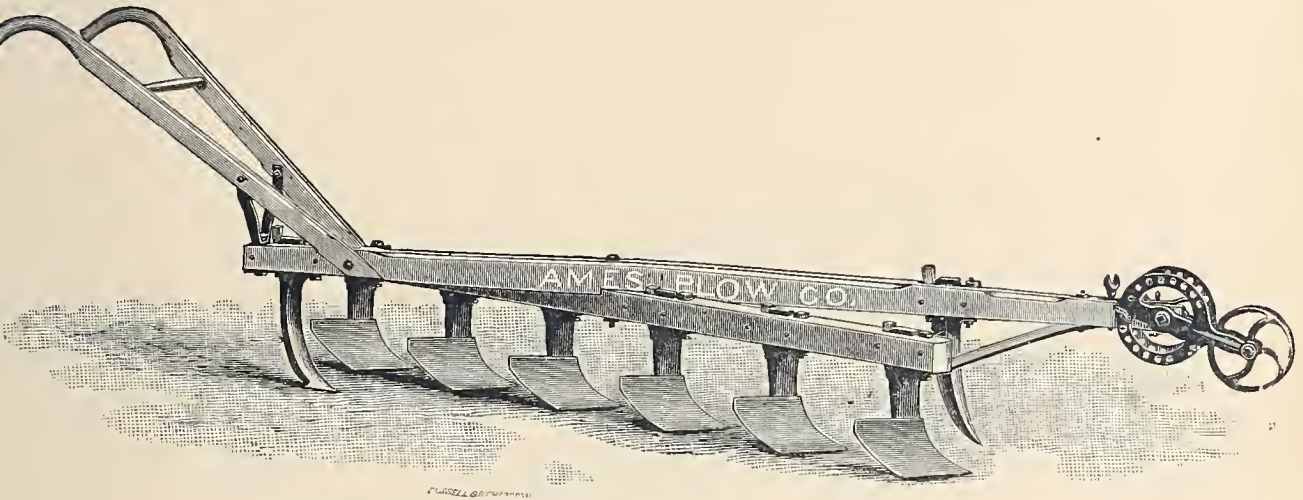

Fig. 366. — Knox Gang-Cultivator, No. 2.
*The Knox Gang-Cultivator*, represented by *Fig. 366*, in which illustration we show the No. 2 size with six plows, is a combination of the KNOX HORSE-HOE and the GANG-PLOW. The beam to which the team and handles are attached, is placed in the line of draft of the implement, and has the cutter or curved tooth of the KNOX HORSE-HOE forward, and a similar tooth with a double share in the rear, for the purpose of balancing the cultivator. Another beam, placed diagonally to the draft, or to the first-named beam, contains a row of small steel plows, each cutting and covering a breadth of earth of about seven inches, inverting and pulverizing the soil to the depth of one, two, or four inches, and raising a fine tilth.